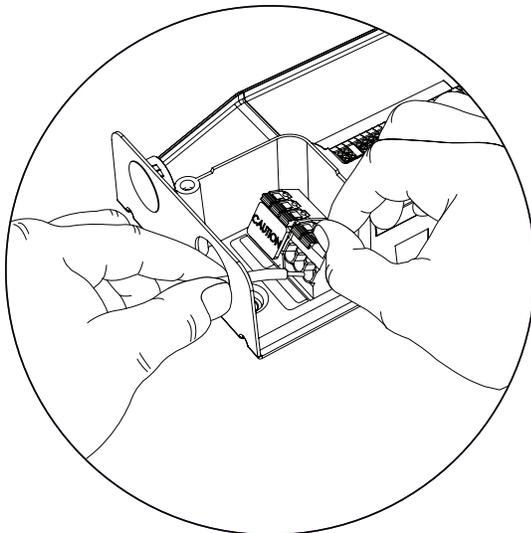

fig. 7
1. Open appropriate terminals by flipping orange levers into UP position (see fig. 7). Make connections to the "AC Mains In" section connecting to appropriate line, neutral and ground terminals.